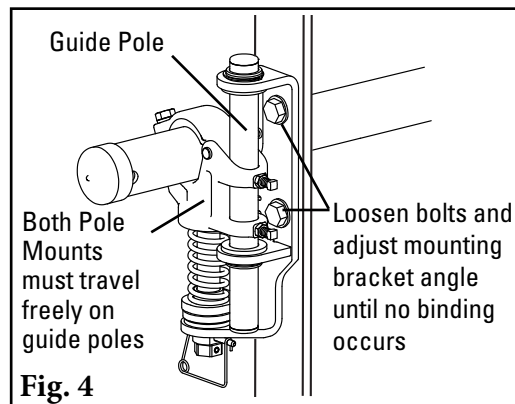

Fig. 4
4. **Set the blade tension.** Loosen the top tension jam nuts on both sides. Turn the tension nuts until the correct spring compression is reached (Fig. 4). Spring compression is determined by spring length. See the chart at right for the correct spring length for your belt width.
4. **Ensure the tensioner travels freely.** Pull up and push down on each pole end to ensure the pole mount travels freely on the guide pole. If there is any sign of binding, loosen the bolts on the mounting base and pivot until the tensioner moves freely (Fig. 4). Retighten bolts.
4. **Connect the supply lines and set tension pressure.** With the parts supplied, attach a line to each air bag and run the lines to the outlet side of the control box (Fig. 4). **NOTE:** Be sure lines are safely away from the belt. Connect the line from the inlet side of the box to the site’s supply or air tank. Test the connections for leaks and set the pressure per the chart below. Pressure may be reduced to suit application.